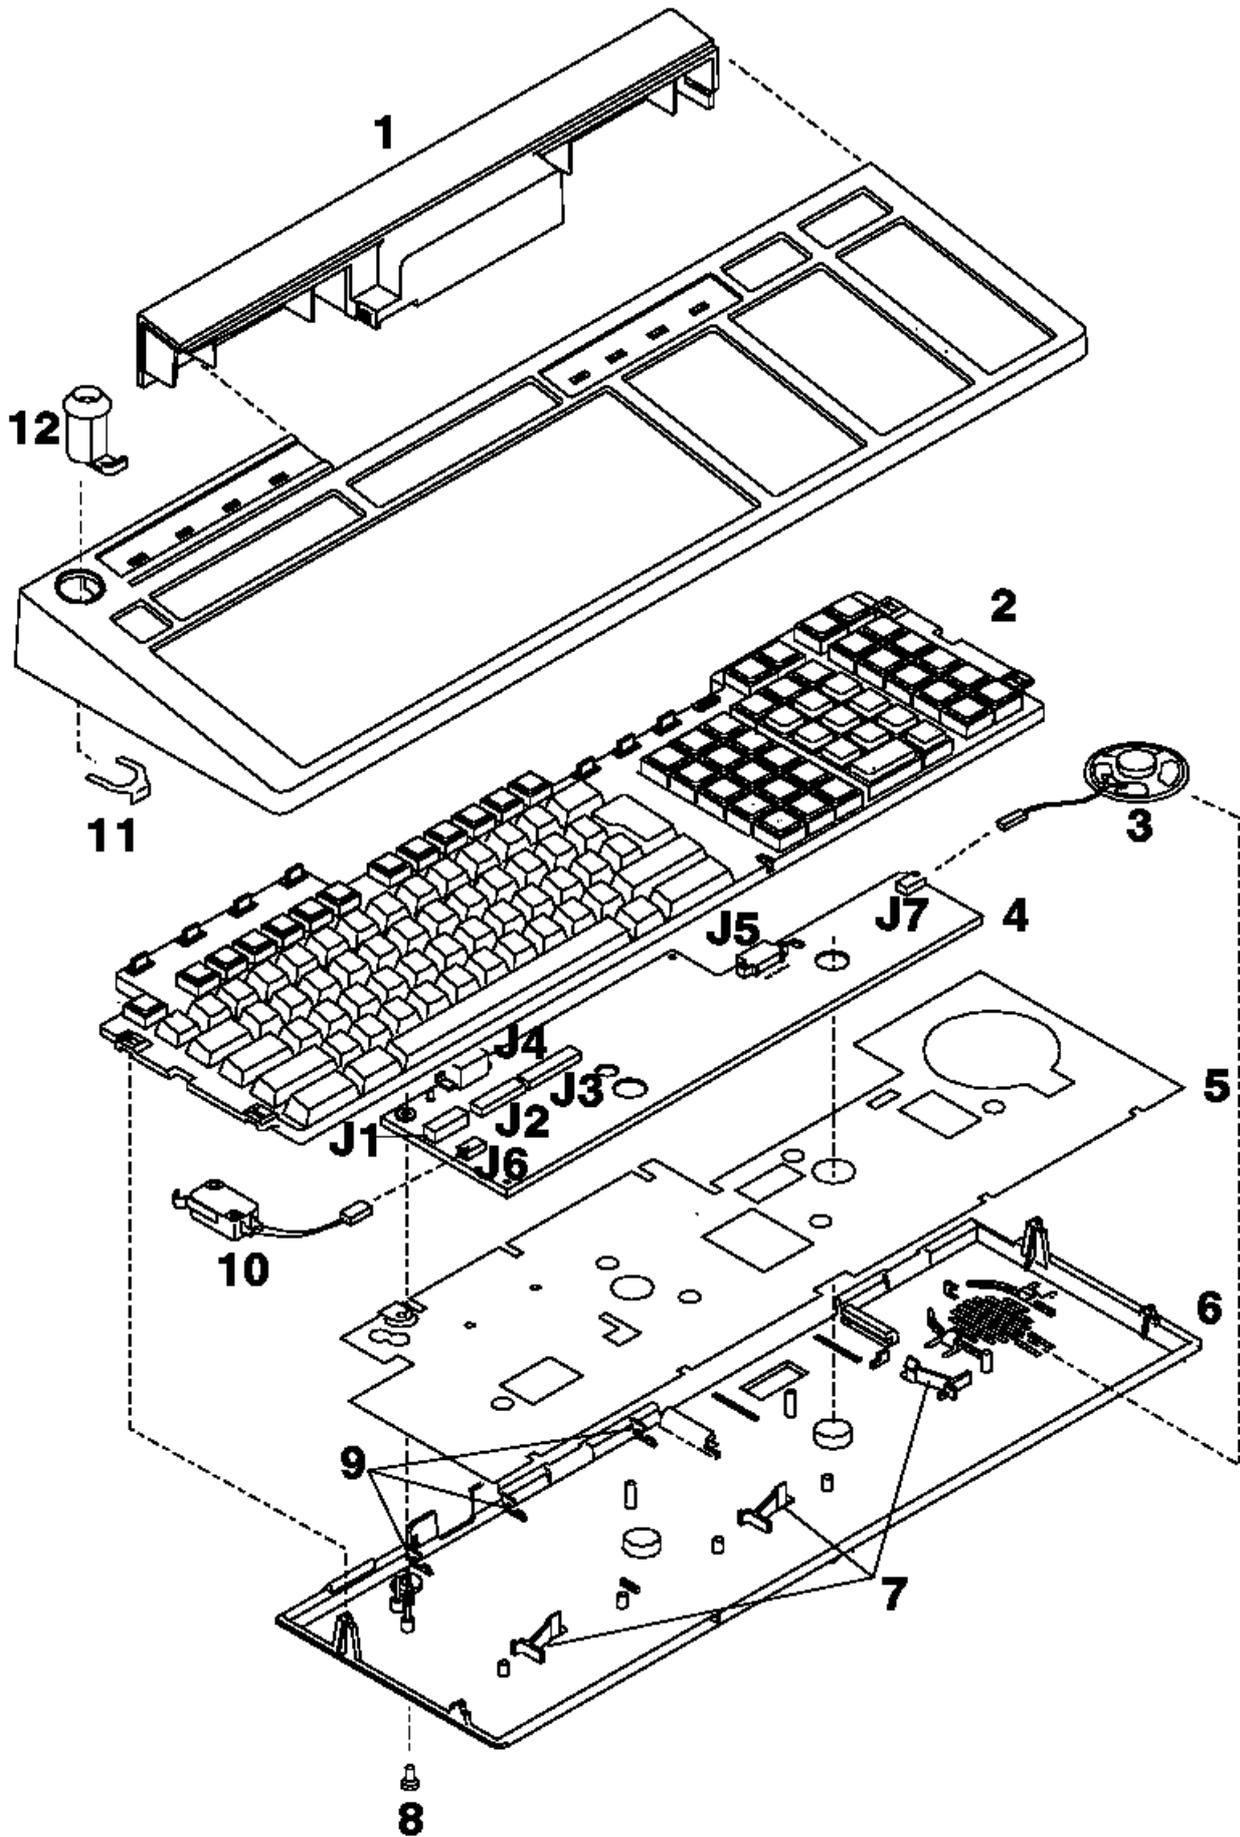

Figure 4-6. Removing ANPOS Keyboard Components
4. Remove the grounding screw (8) that goes through the keyboard base and attaches to the logic board. See Figure 4-6 in topic 4.3.3.7.
6. Release the 3 logic board latches (7).
7. Move the logic board from under the tabs (9) and lift it out of the keyboard base.
3. Remove the keylock retainer (11). See Figure 4-6 in topic 4.3.3.7.
4. Lift the keylock (12) out of the keyboard cover.
4. Disconnect the cable on the manager's keylock switch (10) from connector J6. See Figure 4-6 in topic 4.3.3.7.
4. Disconnect the cable on the speaker (3) from connector J7. See Figure 4-6 in topic 4.3.3.7.